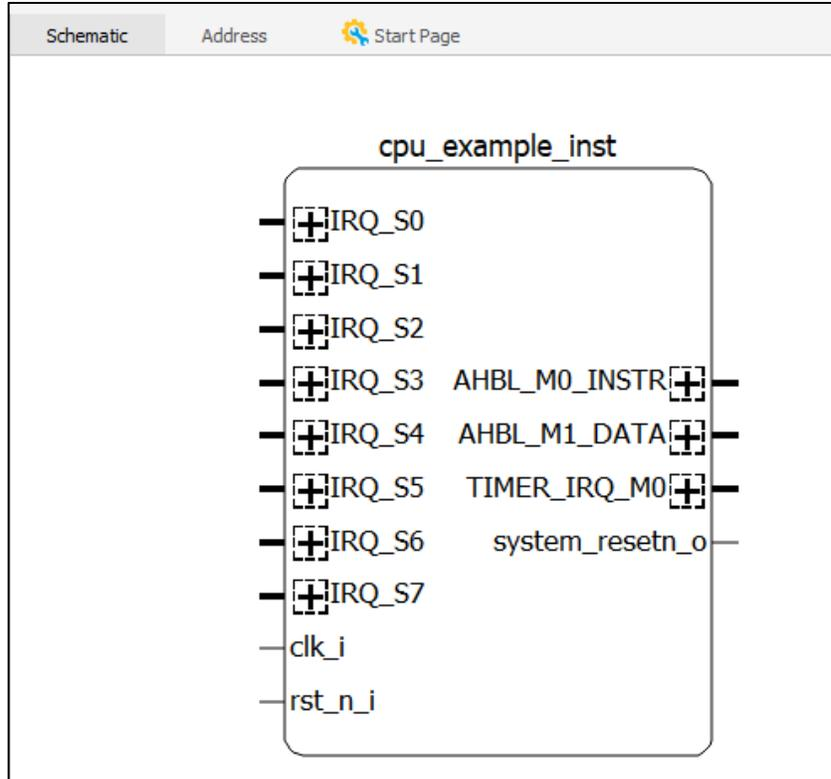

Figure 3.5. Generated Instance
6. The CPU IP instance is successfully generated, as shown in Figure 3.5.